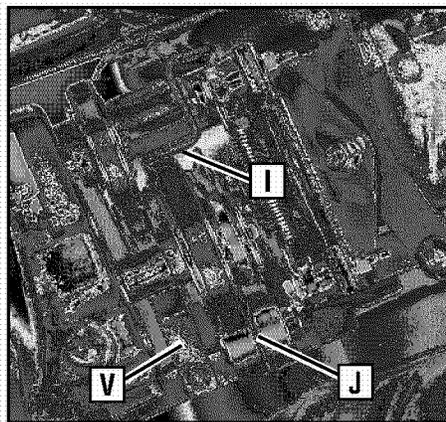
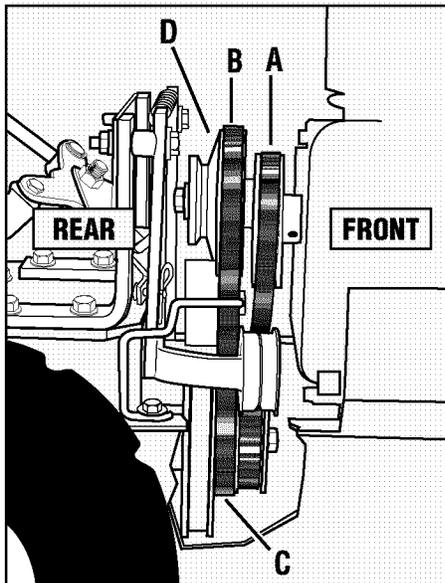
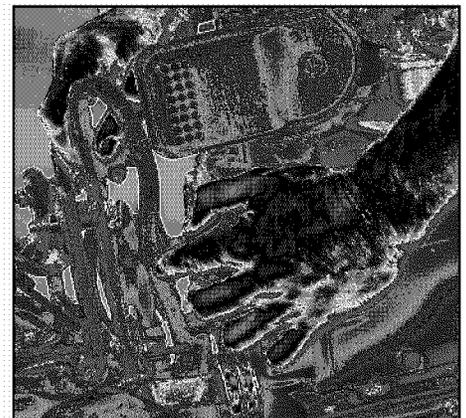
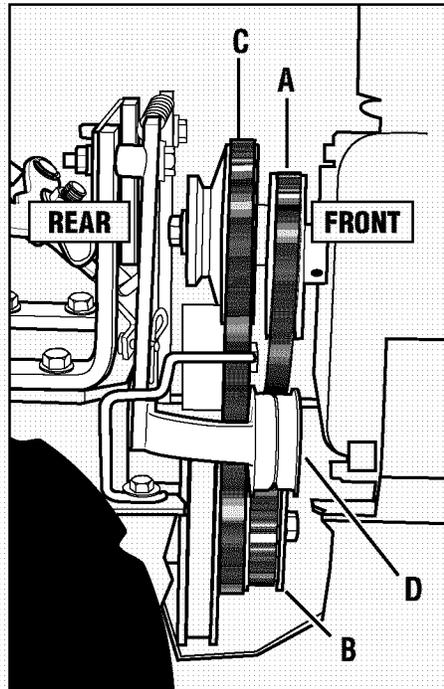

Figure 5-12: Top view of belts and pulleys.
Figure 5-16: Belt drive system.
Figure 5-17: Install forward drive belt over rear of engine forward pulley and bring lower half of belt down and in front of transmission pulley.
Figure 5-18: Removing and installing reverse belt.
8. Replace the forward drive belt in the High speed groove (groove closest to engine) or the Low speed groove (rear-most) groove of the engine drive pulley and in the matching groove of the transmission pulley. Be sure the belt is to the inside of the wire formed belt guide (I, Figure 5-12) and to the inside of the forward drive idler pulley (J).
This model has two forward speeds (High and Low) and one reverse speed. The forward engine pulley (D, Figure 5-16) has two grooves for the two forward speeds. The reverse engine pulley (A, Figure 5-16) has one groove for the one reverse speed. The transmission pulley (C, Figure 5-16) has three grooves. The groove closest to the engine is for the reverse belt. The middle groove is for the High speed forward belt range; the rearmost groove is for the Low speed forward belt range.
2. Remove the reverse drive belt (A, Figure 5-16) by following the *Removing the Reverse Drive Belt* instructions in this section.
3. Move the forward drive belt (B, Figure 5-16) completely off the engine forward drive pulley (D).
4. Slip the forward drive belt completely off the transmission drive pulley (C, Figure 5-16) by moving it to the front of the pulley.
2. Slip the forward drive belt down between the rear of the engine forward drive pulley (D, Figure 5-16) and feed the bottom half in between the engine and transmission pulleys (see Figure 5-17). Be sure that the belt is to the inside of the forward idler pulley and forward belt guide (see J and I, Figure 5-12).
3. Slip the forward drive belt down and over the front of the transmission pulley (C, Figure 5-16). NOTE: For additional working room, loosen the reverse belt guide (V, Figure 5-12) and twist it out of the way.
4. Put the lower half of the belt into the High speed groove (middle groove) or the Low speed groove (rear-most groove) of the transmission pulley (C, Figure 5-16).
5. Put the upper half of the belt in the High speed groove (groove closest to engine) or the Low speed groove (rear-most groove) of the engine forward drive pulley (D, Figure 5-16).
IMPORTANT: Make sure that the forward drive belt is to the inside of the wire belt guide (I, Figure 5-12) and the forward idler pulley (J).
3. Slip the reverse belt off the engine reverse pulley (A, Figure 5-18). If necessary, work the belt off the pulley with your left hand while pulling the engine recoil starter rope with your right hand.
4. Push the upper half of the reverse belt downward to create slack in the belt. Then reach underneath the transmission and slip the belt off the front of the transmission pulley (B, Figure 5-18).
5. Pull the belt up and past the engine reverse pulley (A, Figure 5-18).
1. Slip the reverse belt down between the engine reverse pulley (A, Figure 5-18) and the engine forward drive pulley (C).
2. Loop the bottom half of the belt over the front of the transmission pulley (B, Figure 5-18) and seat the belt in the front groove of the pulley.
3. Place the belt to the inside of the reverse idler pulley (D, Figure 5-18) and the reverse belt guide (V, Figure 5-12). Then slip the upper end into the groove of the engine reverse pulley (A, Figure 5-18).
4. If the reverse belt guide (V, Figure 5-12) was loosened previously, center the belt guide on the belt and tighten the mounting screw securely.